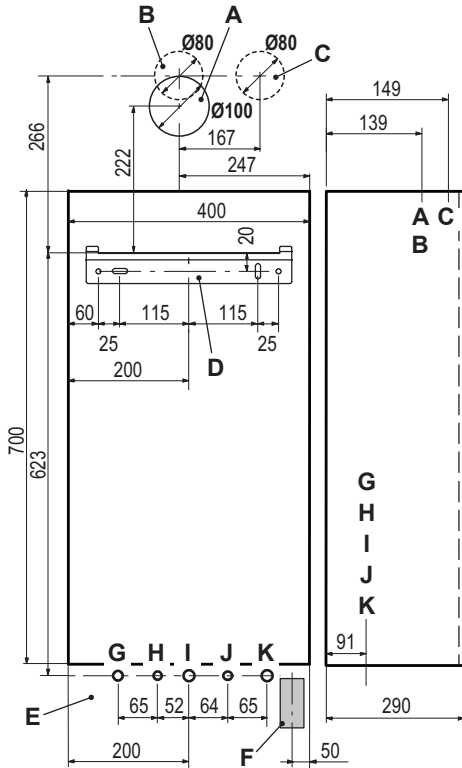

Fig. 6.2
- Fix the water valve "O" ( $\frac{1}{2}$ ") to position "J" (Fig. 6.2) using the  $\frac{1}{2}$ " gasket.
- Fix the C.H. valves "N" to position "G" and "K" (Fig. 6.2) using the  $\frac{3}{4}$ " gaskets.
- Fix the gas cock "P" to position "I" (Fig. 6.2), using the  $\frac{3}{4}$ " gasket.
- Fix the  $\varnothing$  15 mm copper pipe "Q" to position "H" (Fig. 6.2) using the  $\frac{1}{2}$ " gasket.